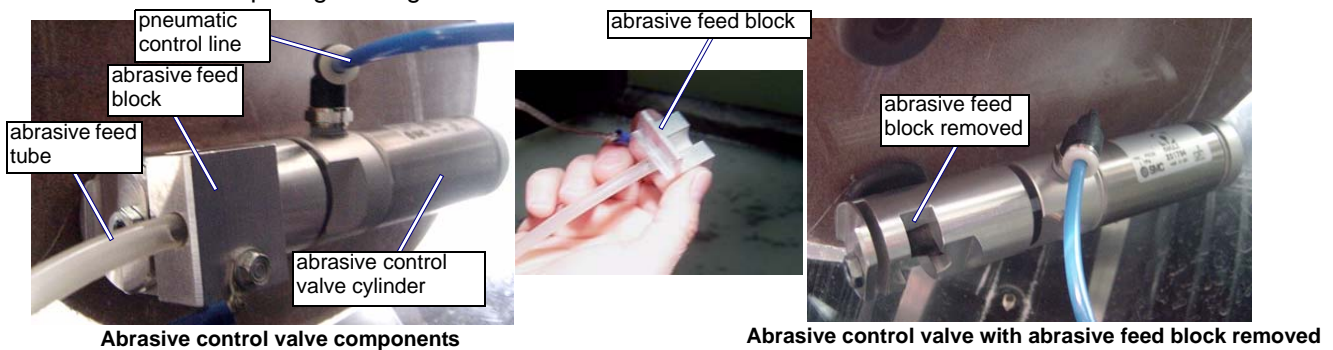

Figure 4-24: Abrasive Control Valve and Abrasive Feed Block
- c. When the jet stream begins, remove the abrasive feed tube from the abrasive feed block on the abrasive control valve (Figure 4-24) and block air flow through the feed tube by holding a finger against the tube opening. Then, examine the quality of the jet stream as illustrated below:
- a. Remove the **abrasive feed block** from the abrasive control valve cylinder (Figure 4-24) by pulling it straight back.